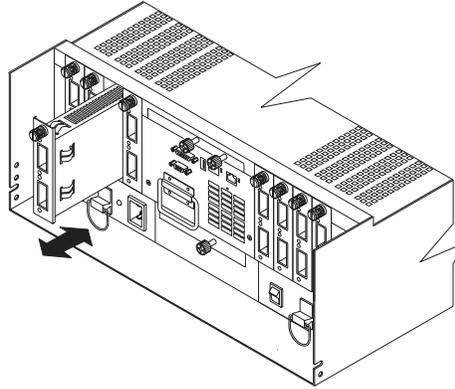

Figure 11. Removing and replacing the mini-hub
- 3 Remove the CRUs, using Figure 8 through Figure 11 as guides.
- 5 To install the mini-hubs in the back of the controller unit, reverse the instructions in Figure 11 on page 15.